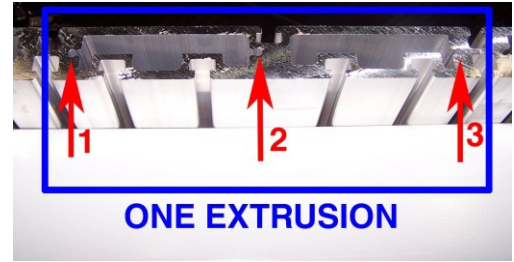

Fig 18
- 1) Using an M6 Tap, tap the three holes per extrusion (Total of 15 holes in the front, and 15 holes in the back) about $\frac{1}{2}$ " deep. See Fig 18.